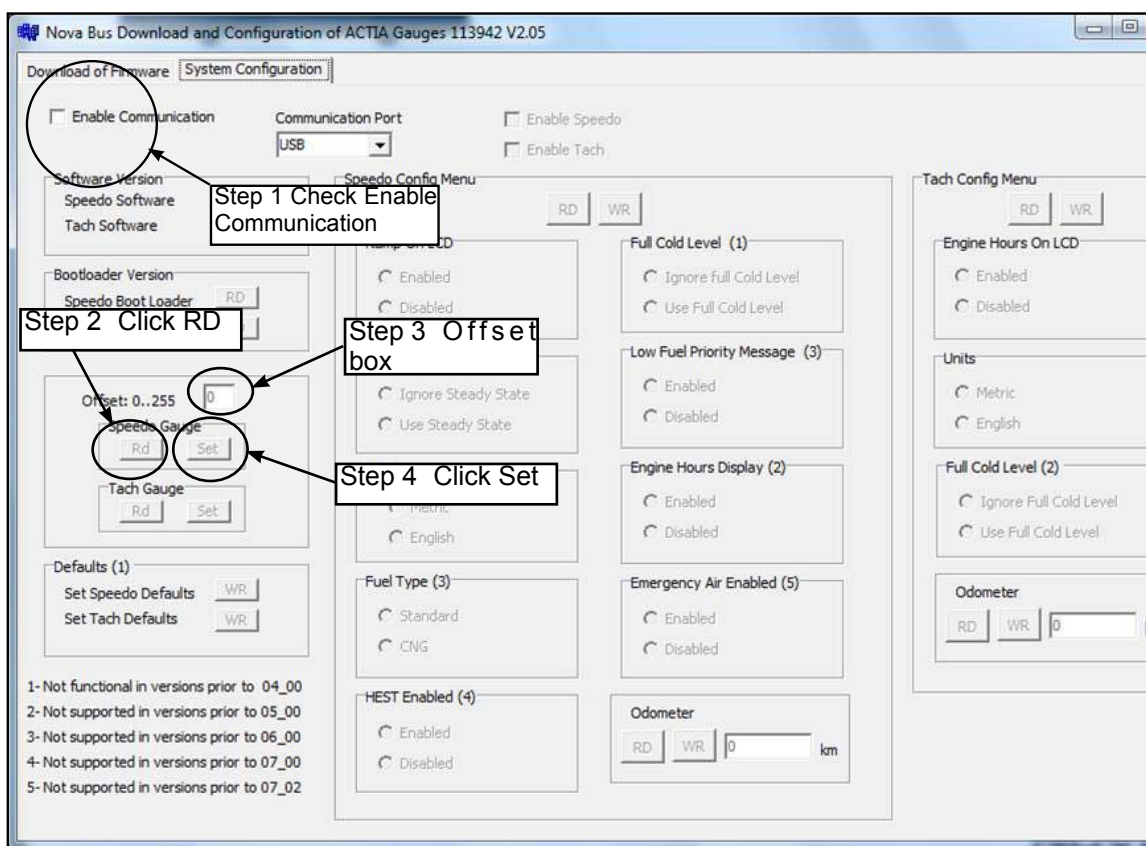

Figure 21 - Adjusting Needle to Zero
Step 5: Repeat steps 1-3 until the needle is correctly positioned at zero (see Figure 21).